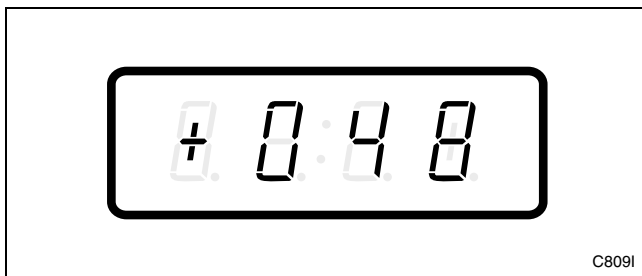

Figure 172
3. Press the LOW TEMP (+) or the NO HEAT (-) keypad to scroll through the programmable options until “+048” appears in the VFD. Refer to *Figure 172*.